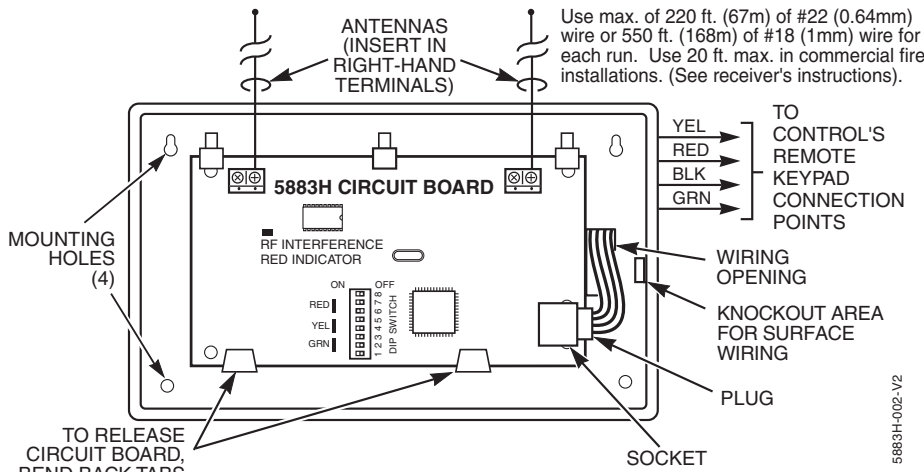

Figure 4. 5883H RF Transceiver
1. Insert the wiring plug (with 4 flying leads) into the mating socket on the 5883H (see Figure 4 for socket location).
LED FUNCTIONS (refer to Figure 4)